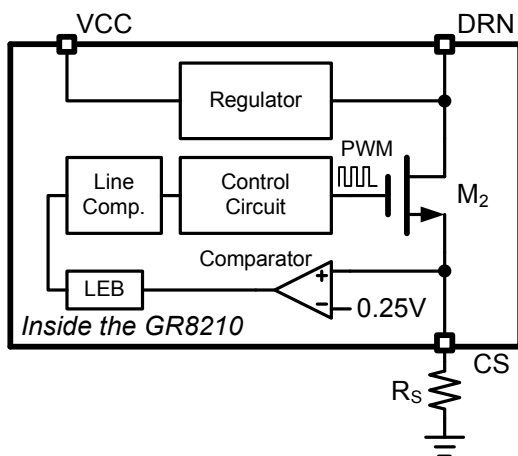

Figure-3 The brief schematic to explain the peak current detection and line voltage compensation.
In the Figure-3, a current flow through  $M_2$  and  $R_S$  during the  $M_2$  on period. This current caused the  $V_{CS}$  increasing, the comparator pass the peak current information to the control circuit to turn off  $M_2$  while  $V_{CS}$  reach to 0.25V. The peak,  $I_{PK}$ , current could determine by (1):